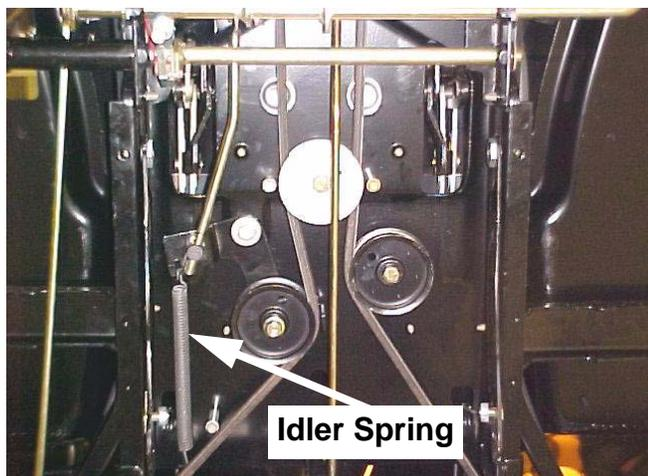

FIGURE 5
17. Unhook the Idler Spring from the Idler Arm, then unhook the Idler spring from the hole in the frame. After removal, discard the Idler Spring. See Figure 5.